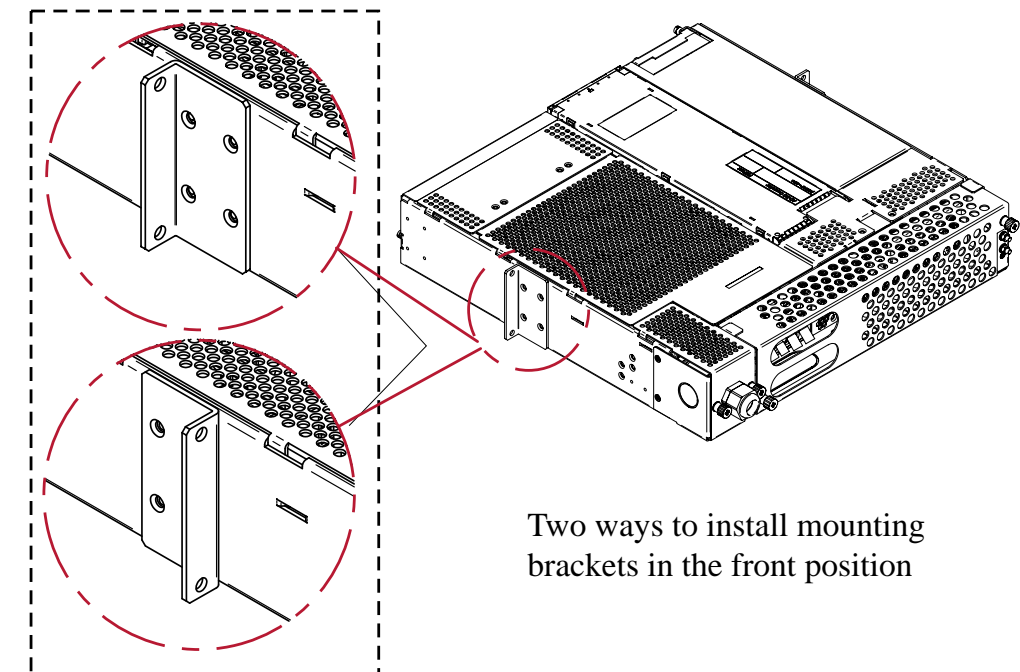

**Figure 4-1 System Mounting - Cabinet**
1. Determine the installation position according to system measurement. Refer to the Appendix A for details. Re-install the mounting bracket in another position if necessary. Refer to the figure 4-1 below.